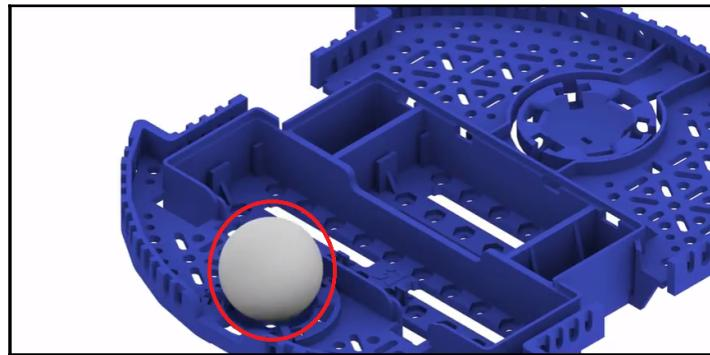

Figure 6.6: Placing the plastic ball. Image courtesy of Pololu—<https://www.pololu.com>
2. Place the 1" plastic ball on top of the three rollers (*Figure 6.6*):